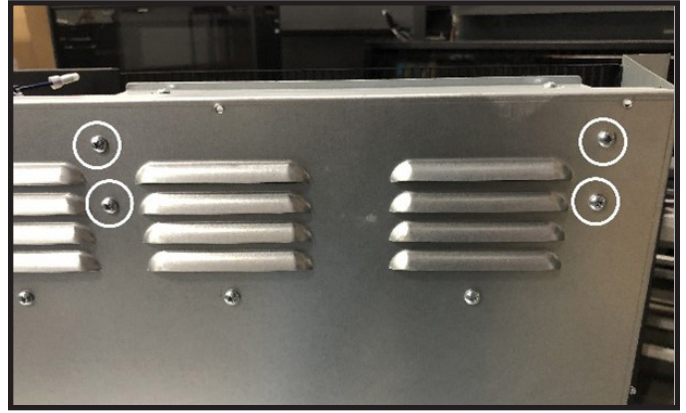

Figure 7 Heater Removal
3. Remove screws securing the heater to the back of the appliance. See Figure 7.
7. Align the heater shroud and the replacement heater assembly in place on the appliance. Secure the heater mounting bracket with the four screws removed from the back of the appliance. See Figure 7.